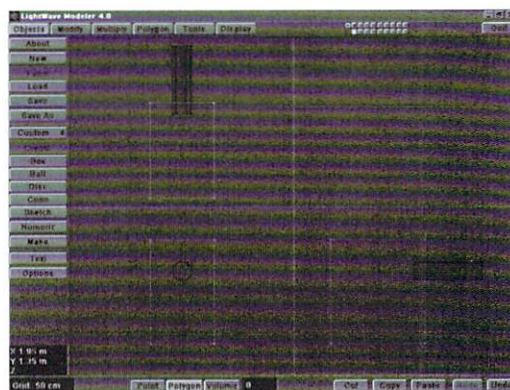

Figure 2: Using a tube to tunnel a hole in the box.
- Make layer 1 the active layer and layer 2 the background layer, as shown in Figure 2.